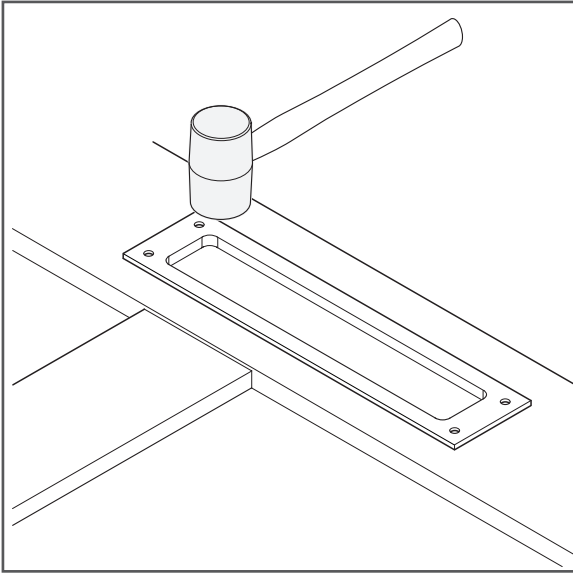

Figure 4
4. Using a rubber mallet, gently tap the door pull into the chiseled area for a test fit, correcting depth and shape as needed. The pull should fit snugly and the lip of the pull should rest evenly on the door surface (Figure 4).